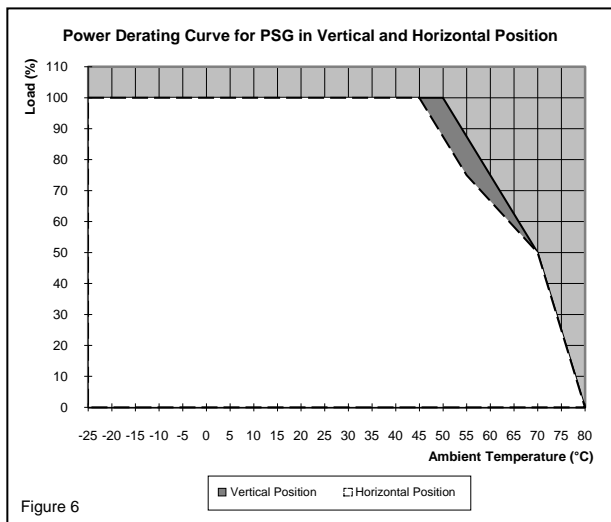

Figure 6
5.4. Thermal behavior (Fig. 6).
Operating temperature (surrounding air temperature)	-25°C to +80°C (Refer to Fig. 6)